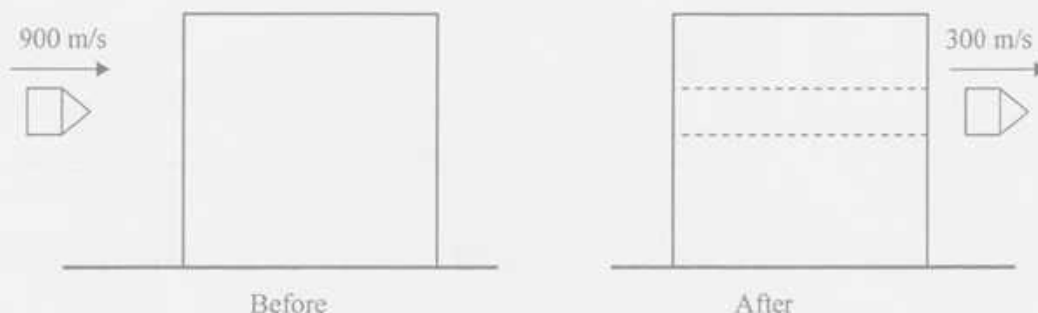

Figure 11
12. The 200 g projectile, shown in Figure 11, is fired with a velocity of 900 m/s towards the center of 15 kg wooden block, which rests on a rough surface. If the projectile penetrates and emerges from the block with a velocity of 300 m/s, determine the velocity of the block just after the projectile emerges. How long will the block slide on the rough surface, after the projectile emerges from the rough surface, before it comes to rest again? The coefficient of kinetic friction between the block and the surface is 0.2.